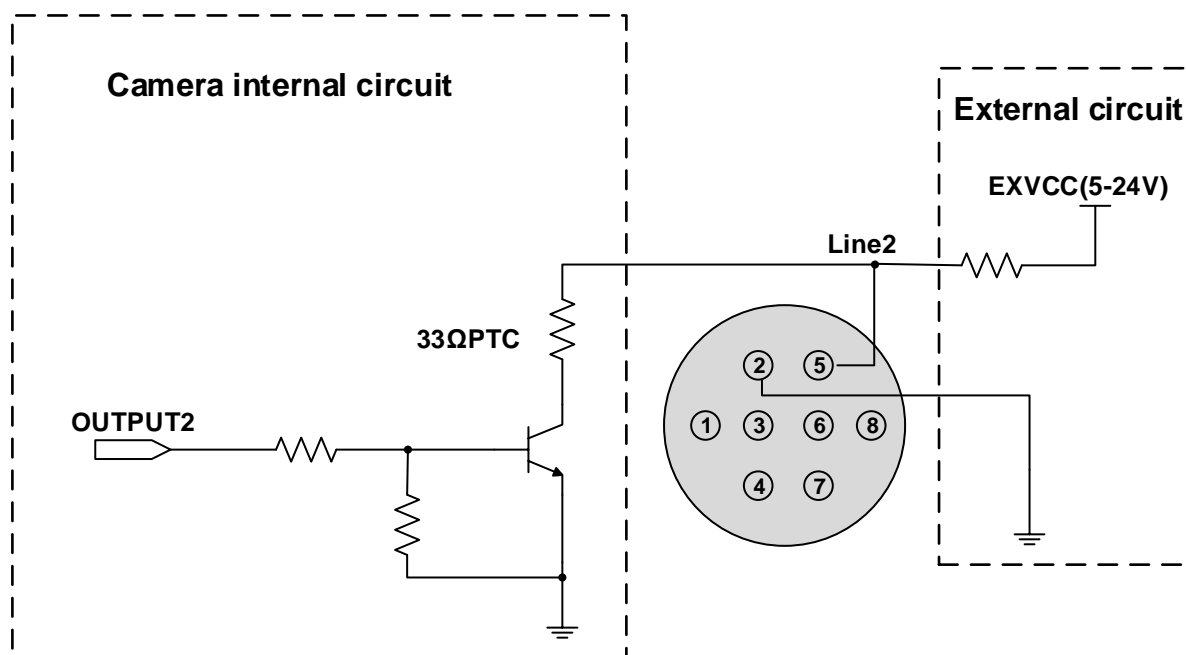

Figure 7-21 Internal equivalent circuit of camera when Line2 is configured as output
- When Line2 is configured as output, the internal equivalent circuit of camera is shown in Figure 7-21